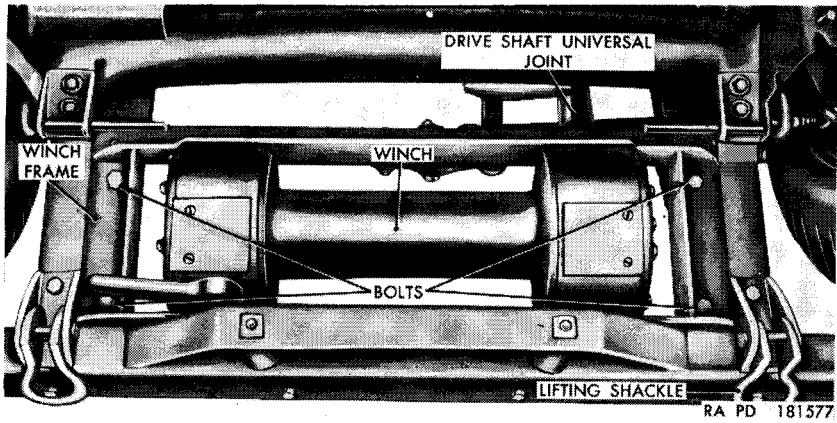

Figure 81. Winch installed.
*a. Description.* The horizontal drum-type winch assembly is mounted between the frame side members at the front of the vehicle as shown in figure 81. The winch is driven from the power-take-off (par. 202) on the rear of the transfer through a system of shafts and universal joints.
- (1) Loosen the setscrew (Z) securing the universal joint to the shaft of worm gear (A). Slide the long drive shaft (C) with universal joint toward the rear of the vehicle into the universal slip joint assembly (D) and off the shaft of worm gear and the key. Lower to floor.
- (2) Remove the four bolts (fig. 81) and lockwashers securing the winch frame to the frame support brackets, and raise the winch with frame up and out of the vehicle.
- (1) Position the winch with the winch frame (fig. 81) on the frame support brackets and align the holes in the frame with the holes in the brackets. Place a  $\frac{1}{2}$ -inch lockwasher over each of the four  $\frac{1}{2}$  x 1 bolts. Insert the bolts with washers through the holes in the winch frame and screw into the frame support brackets.